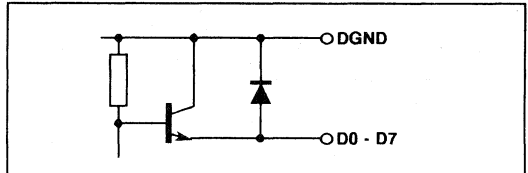

Fig.10 Digital output
**8-Bit ECL Outputs (Fig. 10)**